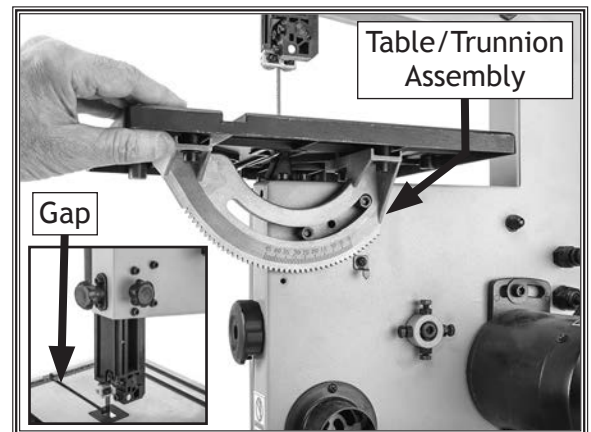

Figure 11. Table/trunnion positioned on saw.
2. Slide gap in table around blade, and mount table/trunnion assembly to main saw body, as shown in **Figure 11**.